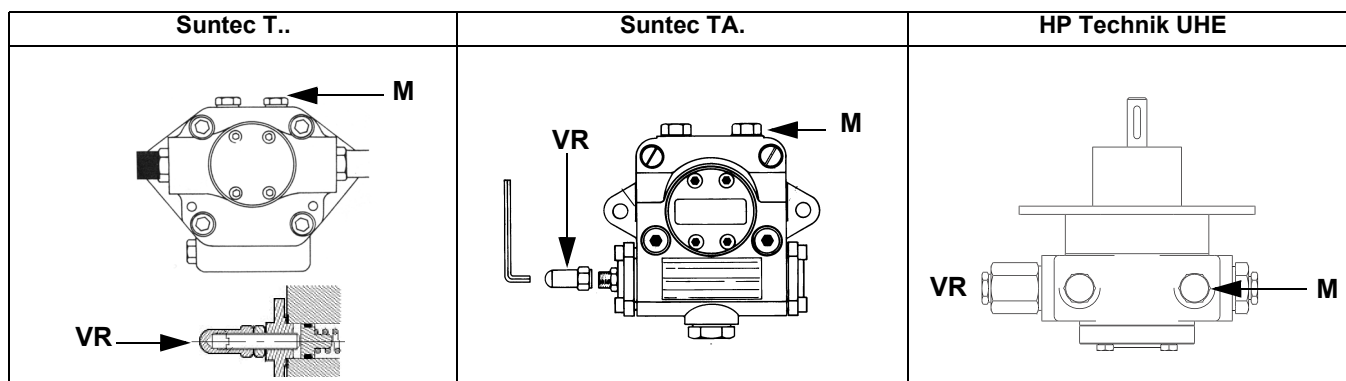
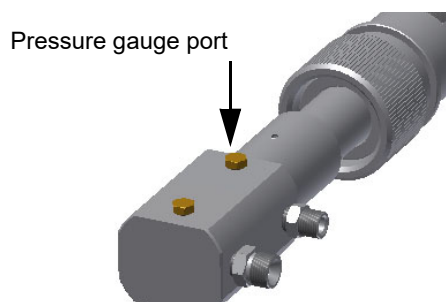

Fig. 4
Fig. 5
- 3 bleed the air from the **M** pressure gauge port (Fig. 4) by loosening the cap without removing it, then release the contactor.
- 5 Only if necessary, adjust the supply pressure as follows (see related paragraph); insert a pressure gauge into the port shown on Fig. 5 and act on the pump adjusting screw **VR** (see Fig. 4) as to get the nozzle pressure at 20bar (Monarch or Fluidics nozzles - see page 43-38).
- 2 Remove screws 1 ÷ 4 using the Allen key n. 3 and remove filter cover 5 in Fig. 5.
2. Slide VD forward up to the stop, fig. 4.
3. Screw VD on with 2 M5 screws for each, max. 5 Nm/44 in.-lb., fig. 5/6.